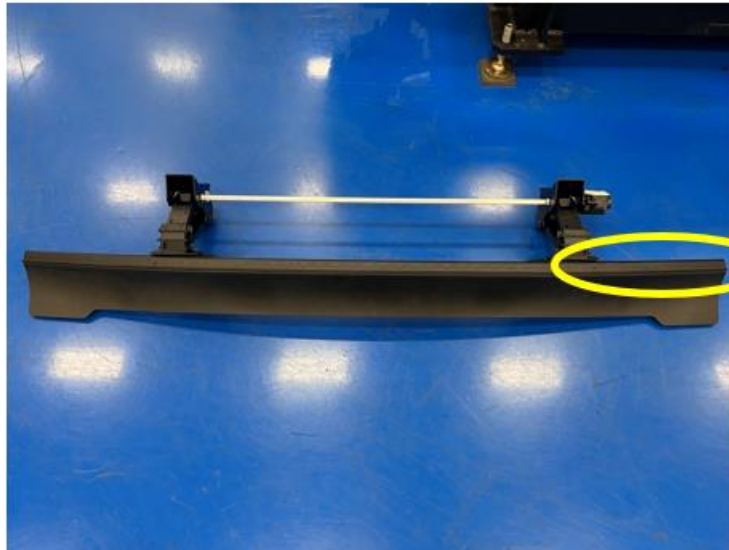
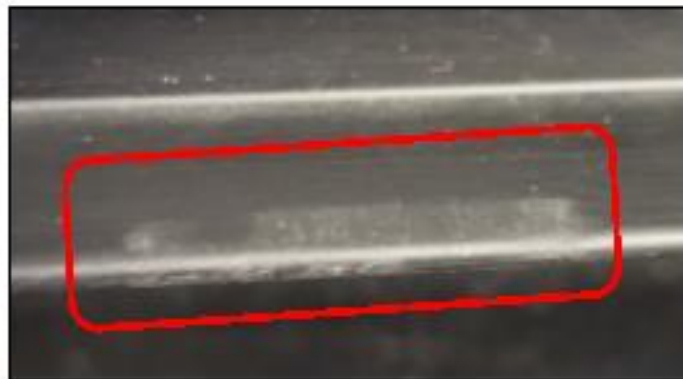

Fig 3
Fig 4
2. Clunk noise diagnosis. Check the active air dam blade front seal lip for witness marks (Fig 3) at the driver side fascia clip locations noted (Fig 4).